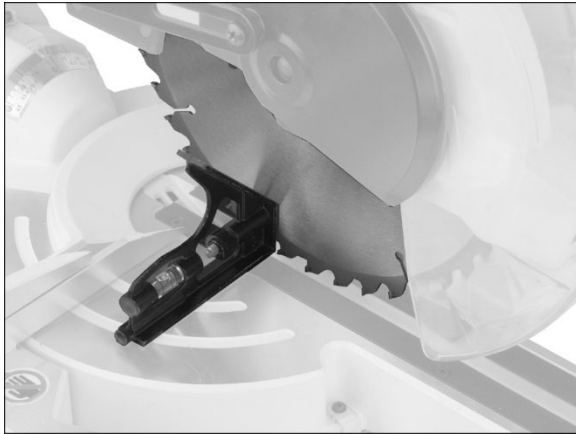

Figure 8-6
5. Place a combination square flat on the table and against blade, as shown in Figure 8-6. **Note:** Position the square flush against main blade surface, not against a projecting blade tooth.